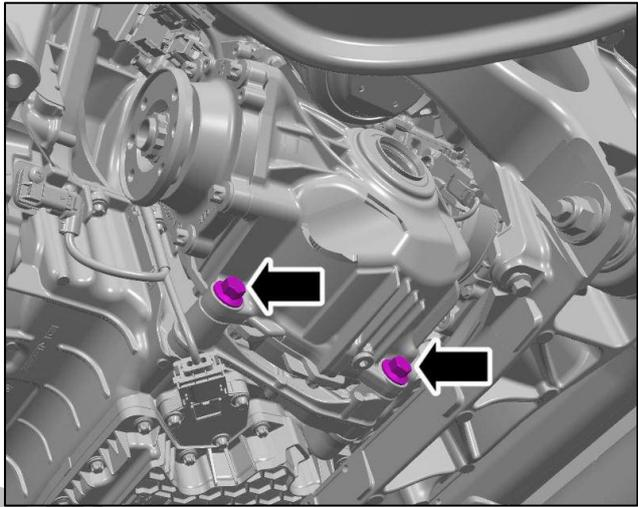

Figure 1
1. Set the transmission to Neutral (N) and do not apply the park brake.
3. Torque the two bolts that attach the FDU assembly to 50 Nm plus 95 degrees (refer to Figure 1).